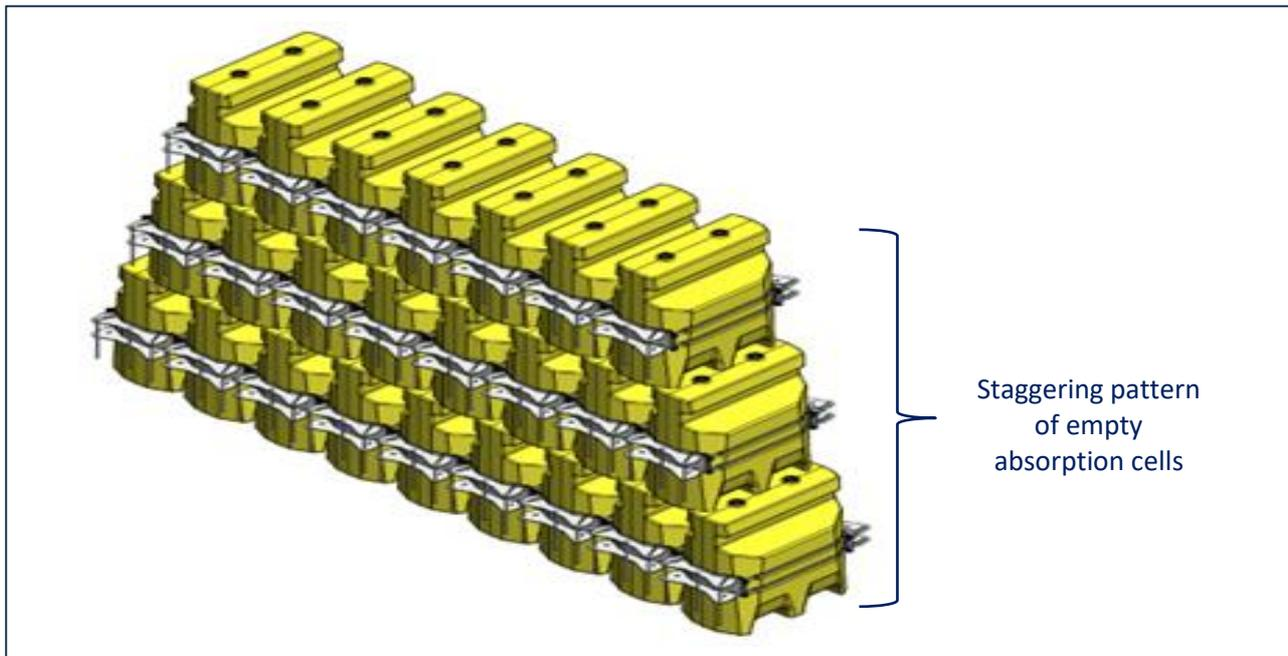

Figure 5: Stacking of Empty Absorption Cells
The design of the QUASH™ absorption cells facilitates ease of stacking to minimise storage space. Empty cells may be stacked up to three (3) units high in a staggered pattern as shown in Figure 5.